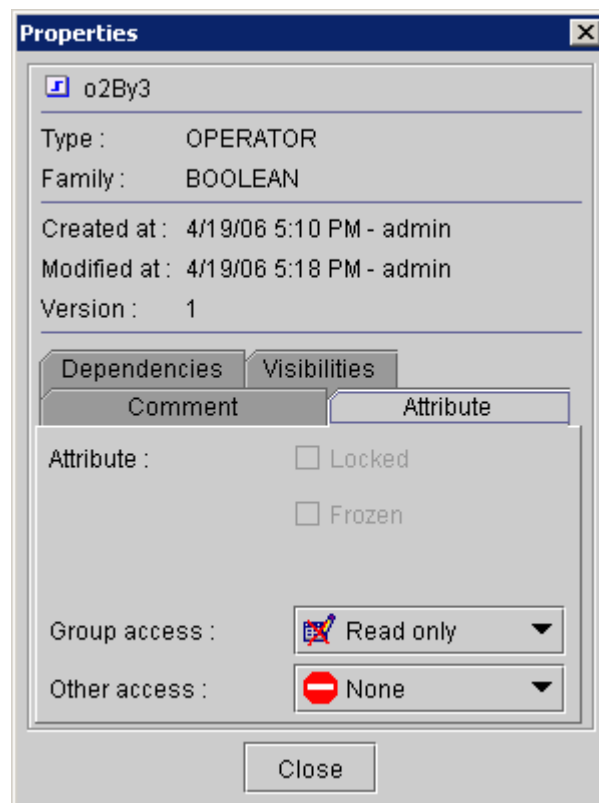

Figure 119 : Operator – Properties tab
- ♦ The Properties tab (Figure 119) contains the following information: